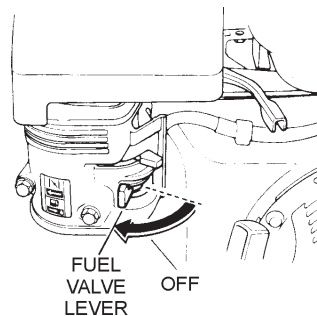

Figure 17. Fuel Valve Lever (OFF)
- Place the **fuel shut-off lever** (Figure 17) in the **OFF** position.